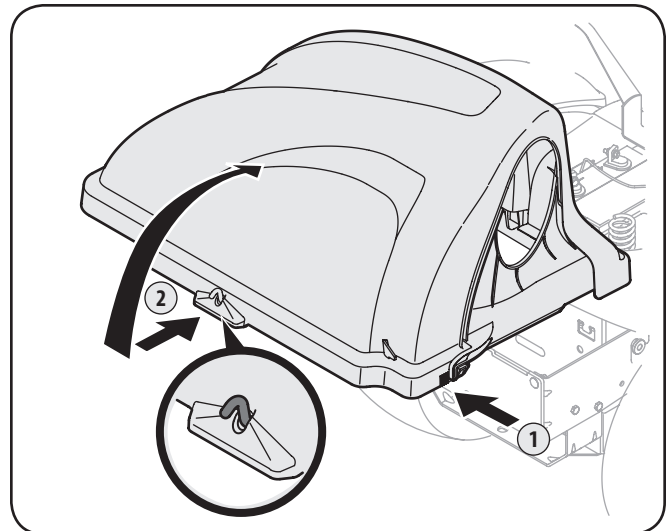

Figure 4-18
7. Open Hood by pushing in on the rear, right-side tab with your right hand, as seen in 1 of Figure 4-18, and lifting the cover with your left hand in the center rear of the bagger cover, 2.